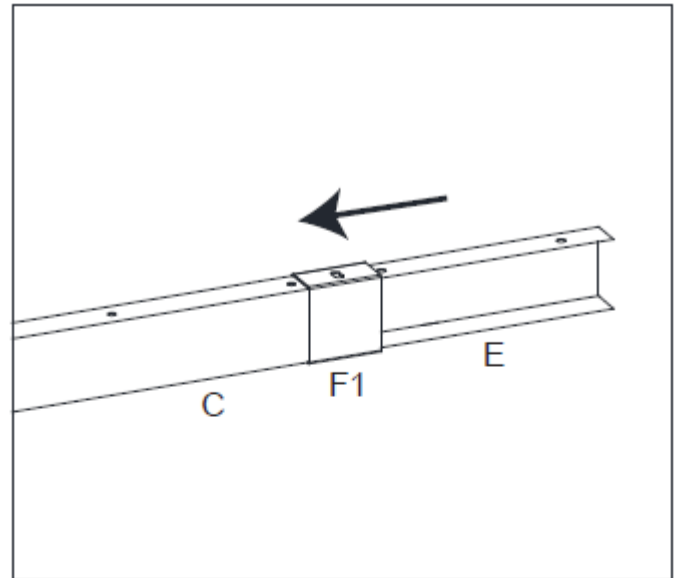

Figure 2-2
Step 2B: Insert the Outside Lintel (C) and Cross Beam Center Connector Plate (E) into Beam Connector (F1). See Figure 2-2.